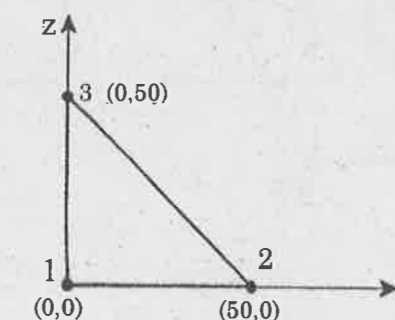

Fig 14(a)
- (b) Derive the expression of shape function for heat transfer in 2D element. (16)
14. (a) Determine the stiffness matrix for the axisymmetric element shown in Fig 14(a). Take E is $2.1 \times 10^5 \text{ N/mm}^2$, $\nu = 0.25$. The coordinates are in mm. (16)